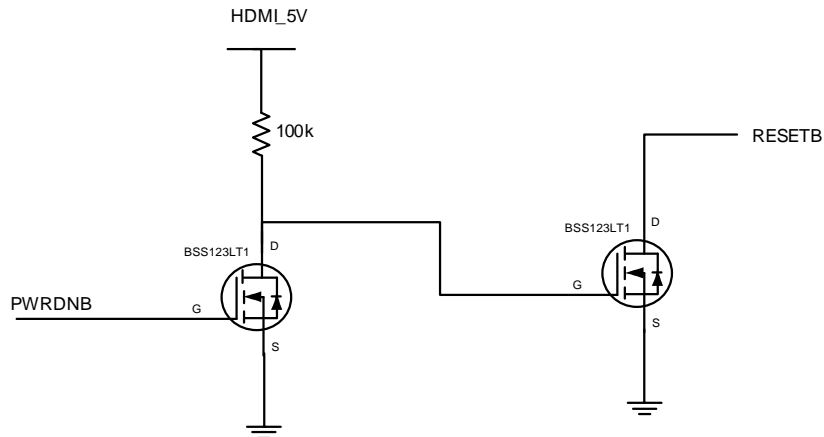

Figure 1: EDID Power-Down Functional Circuitry
- RESET pin must go low, before or at the same time as PWRDWN pin goes low. To ensure this occurs the circuitry in Figure 1 is recommended. It is important to note that this requirement must be met even if the main supply is removed without notice. (For example, if a TV is abruptly disconnected from the wall socket).